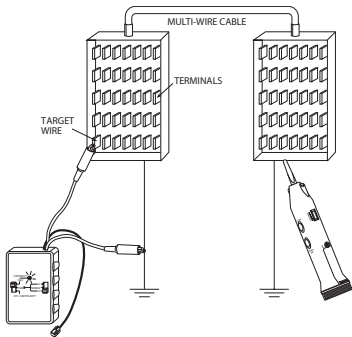

Figure 6
*In the grounded method (also called Line to Ground), one clip of the FOX 2 (either the red or green) is connected to earth ground or a "fake ground", and the other clip is connected to the target wire. The target wire can be one wire of a pair or a multiwire cable. See Figure 6. This method creates the strongest tracer tone, and is often used when wires are traced through walls or ceilings. It is also useful for identifying a specific wire within a bundle of wires. If con-*